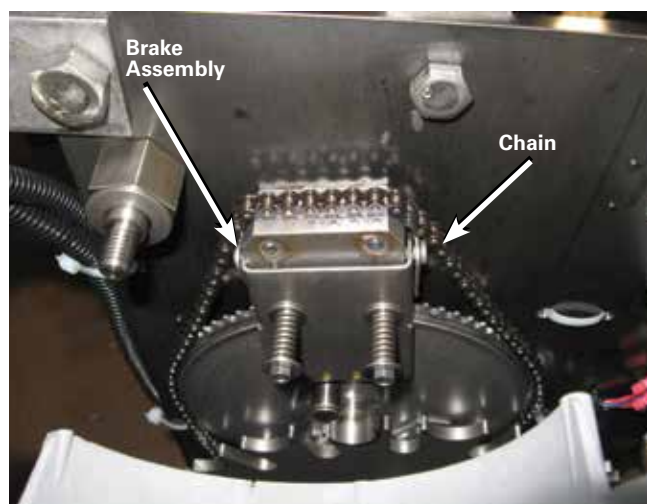

Figure 9. Removal of the chain.
- Remove the chain from the motor sprocket and set it on the brake assembly. This will prevent the chain from falling in between the Geneva gear and sprocket. Refer to Figure 9. Remove the motor from the tap-changer assembly.